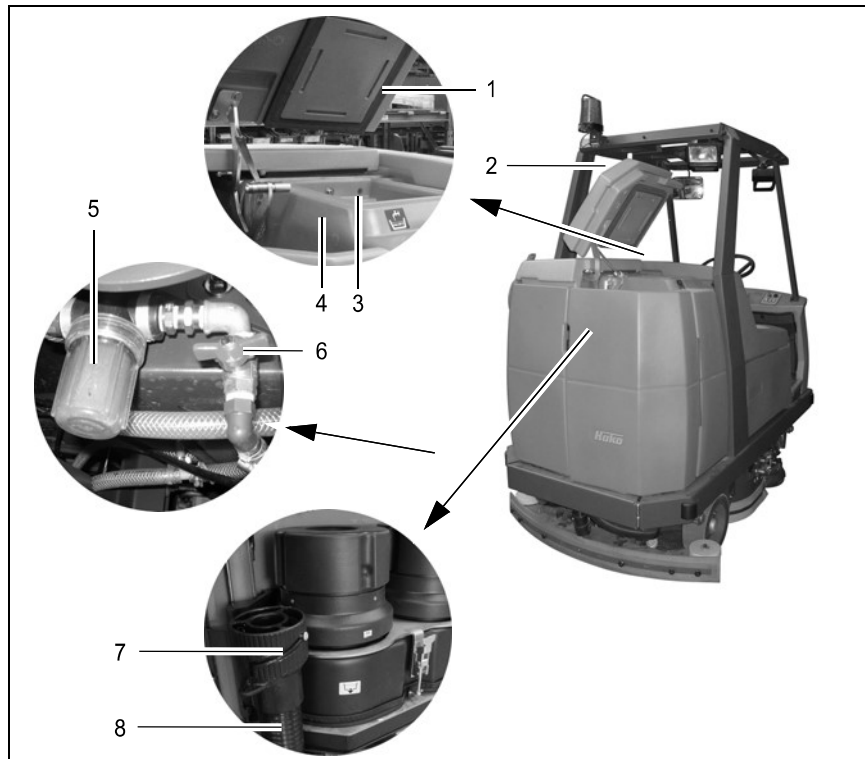

Fig. 27
Fill the fresh water tank (Fig. 27/4) with fresh water and cleaning agent before starting with the work, also refer to Section 3.1.5.
2. Open the tank cap (Fig. 27/2) and lock in place.
5. Close the lid (Fig. 27/2) on the fresh water tank.
10. Close the cap (Fig. 27/2) on the fresh water tank.
12. Close the lid (Fig. 27/2) on the fresh water tank.
If the vehicle is to be left unused for a longer period, the fresh water tank (Fig. 27/4) should be emptied.
1. Park the vehicle so that the water draining hose (Fig. 27/8) can be positioned over a drain in the floor.
4. Detach the fresh water draining hose (Fig. 27/8) and lower it slowly.
5. Unscrew the screw cap (Fig. 27/7). The quantity drained can be regulated by turning the screw cap and pivoting the cap open fully, if necessary.
- The screw cap (Fig. 27/7) at the end of the draining hose (Fig. 27/8) should be cleaned at regular intervals.
The fresh water supply is equipped with a filter (Fig. 27/5) which must be cleaned if dirt appears on the container. This is located on the left-hand side of the vehicle at the height of the brushes behind the side panel.
1. Close the ball cock (Fig. 27/6) to prevent fresh water being supplied from the tank.